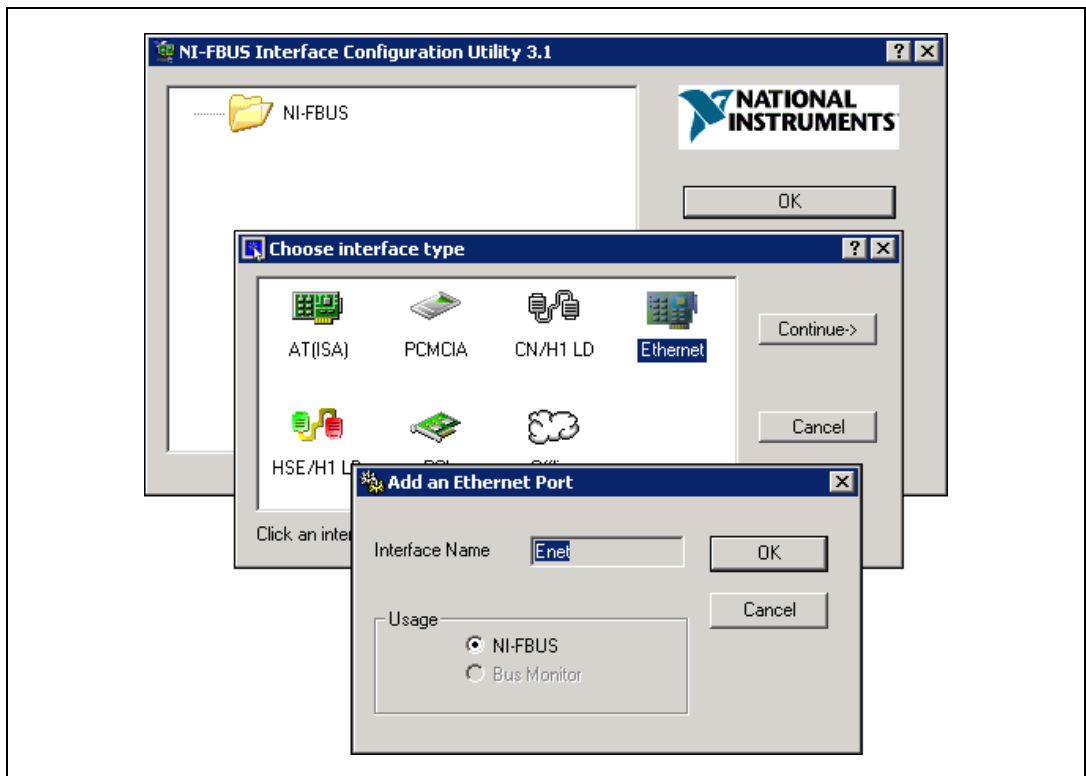

Figure 2-2. Add the Ethernet Interface
3. Choose **Ethernet** as the **Interface Type**. The NI-FBUS Interface Configuration Utility displays the Ethernet interface name and some configuration information as shown in Figure 2-2. You cannot change the name for the Ethernet interface. Click **OK**.